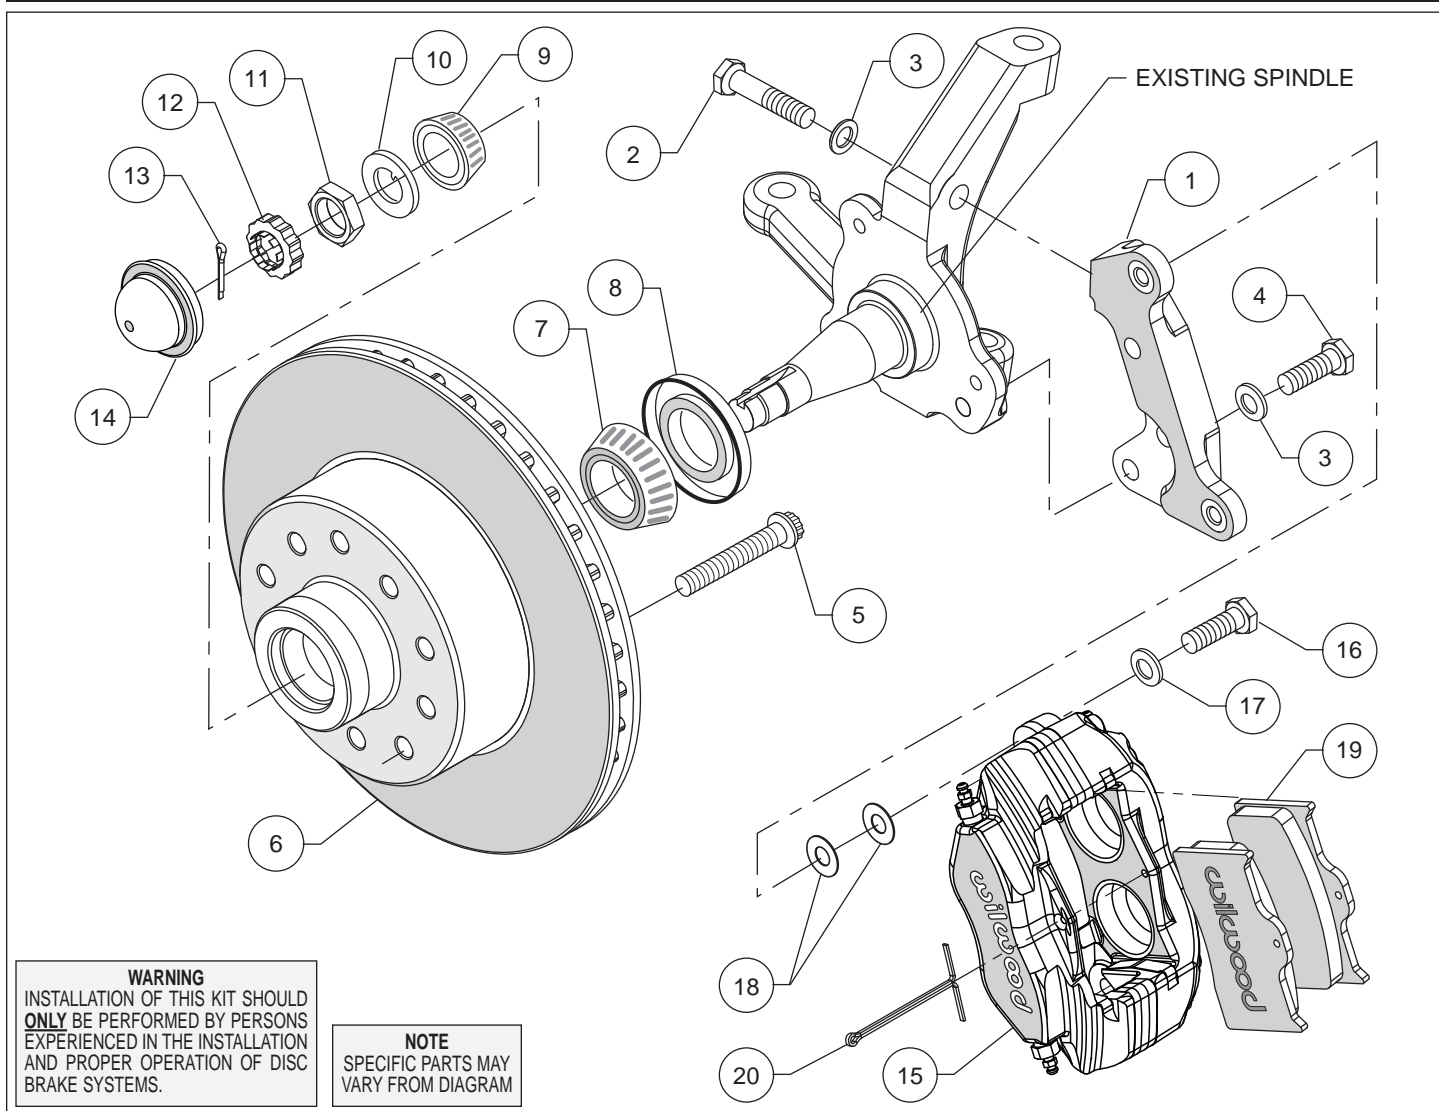
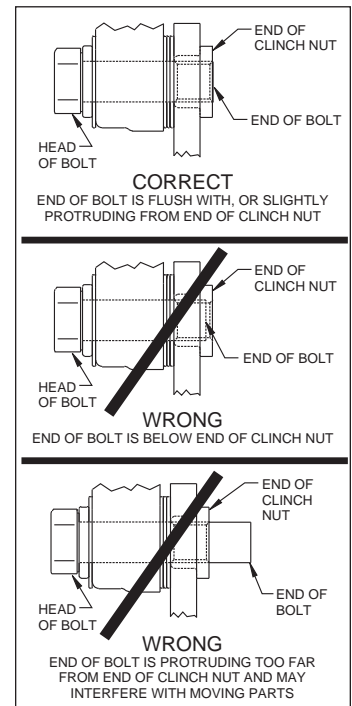

Figure 1. Typical Installation Configuration
Figure 3. Clinch Nut Engagement Diagram
Assembly Instructions (numbers in parenthesis refer to the parts list, on the preceding page and Figure 1): **CAUTION:** All mounting bolts must fully engage clinch nuts. Be sure to check that all bolts are either flush or protruding through flanged side of clinch nut after shimming, Figure 3.
- Orient the caliper mount bracket (1) as shown in Figure 1 and Photo 1, and install using bolts (2/4) and washers (3). Ensure that the flanged heads of the clinch nuts in the bracket are facing outboard, Photo 1. Temporarily tighten the mounting bolts. **NOTE:** The bracket must fit squarely against the mount bosses on the upright. Inspect for interference from casting irregularities, machining ridges, burrs, etc. Remove bolts one at a time, apply red *Loctite*[®] 271 to the threads and torque to 47 ft-lb.
- Press the dust cap (14) into the hub (6), Photo 6. **NOTE:** Do not hammer center of cap. Install using outer flange only.
- **NOTE:** Please reference the caution statement at the beginning of the assembly instructions. Mount the caliper (15) onto the caliper mounting bracket (1) using bolts (16) and washers (17), as shown in Figure 1. Initially place two .035" thick shims (18) on each bolt between the caliper and the bracket, Photo 7. Temporarily tighten the mounting bolts and view the rotor (6) through the top opening of the caliper. The rotor should be centered in the caliper, Photo 8. If not, adjust by adding or subtracting shims between the bracket and the caliper. Always use the same amount of shims on each of the two mounting bolts. **NOTE:** The end of each bolt must be flush with or slightly protruding from the head of the clinch nut, as shown in Figure 3. If necessary place spare shims between washer (17) and caliper mounting ear to achieve the proper clinch nut engagement. Once the caliper alignment and clinch nut engagement are correct, remove the bolts one at a time, apply red *Loctite*[®] 271 to bolt threads, and torque to 40 ft-lb.